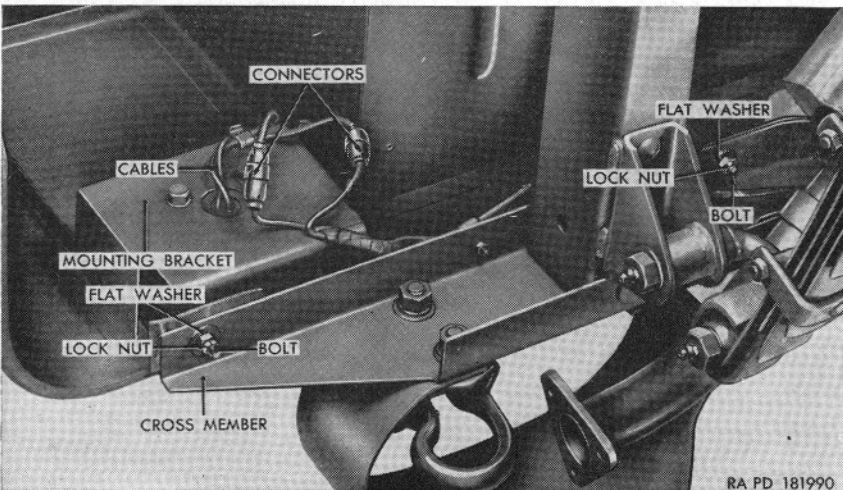

Figure 26.6. (Added) Body hold-down bolts rear cross member and blackout tail and stoplight cables M170.
- (3) *Disconnect points frame, rear cross member.* Remove four lock nuts and flat washers from the bolts securing the body to the frame rear cross member and remove the bolts with flat washers.
- (4) *Disconnect electrical cables* (fig. 26.6).